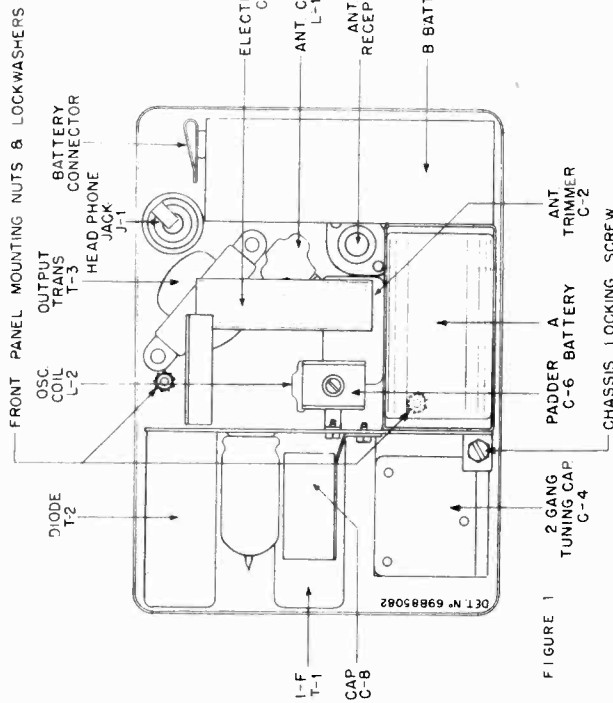

FIGURE 1
4. Remove chassis locking screw (See figure 1.)